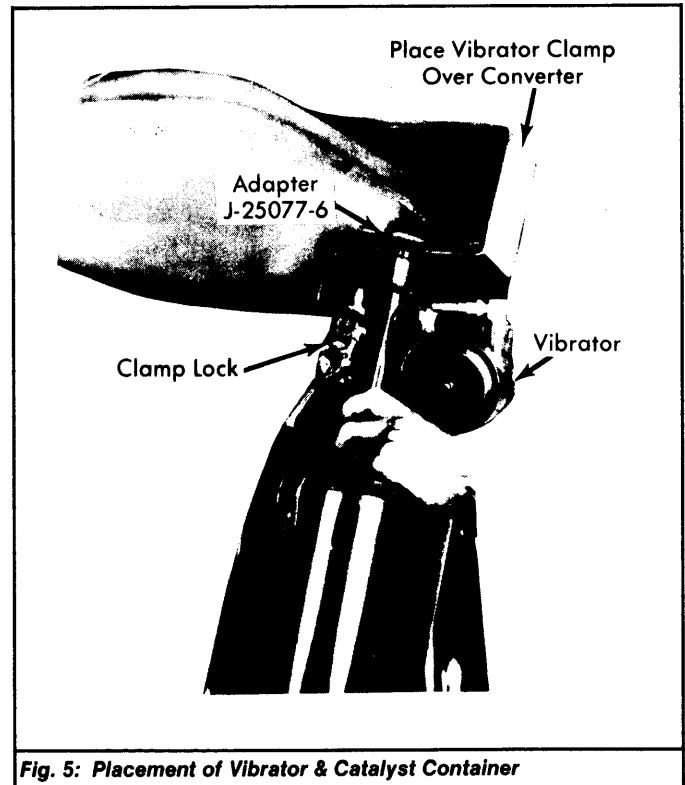

Fig. 5: Placement of Vibrator & Catalyst Container
3) Clamp on vibrator and catalyst receptacle. See Fig. 5. Disconnect air supply from vacuum aspirator and attach it to vibrator unit.